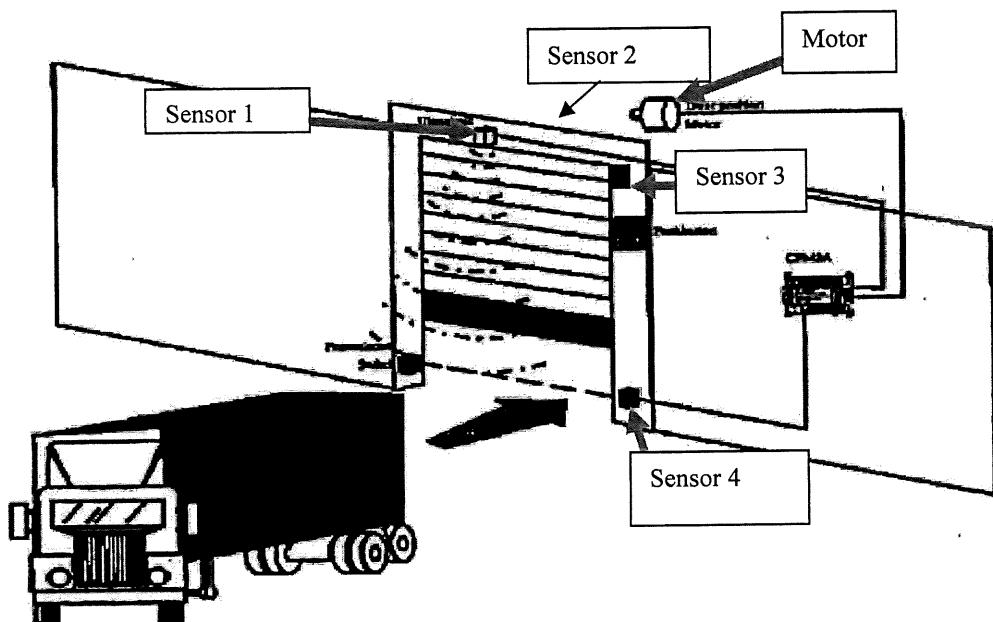

Figure 2
- a) State three (3) SFC (Sequence Function Chart) components: (6 marks)
- c) Figure 2 shows a warehouse whose entry is fully automatically controlled by a PLC system. When sensor 1 detects the presence of a truck, the door will open, when sensor 2 detects a truck leaving (away) the door, the system will allow the door to cover the warehouse without accident occurring, Sensor 3 and sensor 4 are tasked with detecting if the door has reached the full opening limit (sensor 3), while sensor 4 detects the door limit is fully closed. (DIFU , DIFD application)